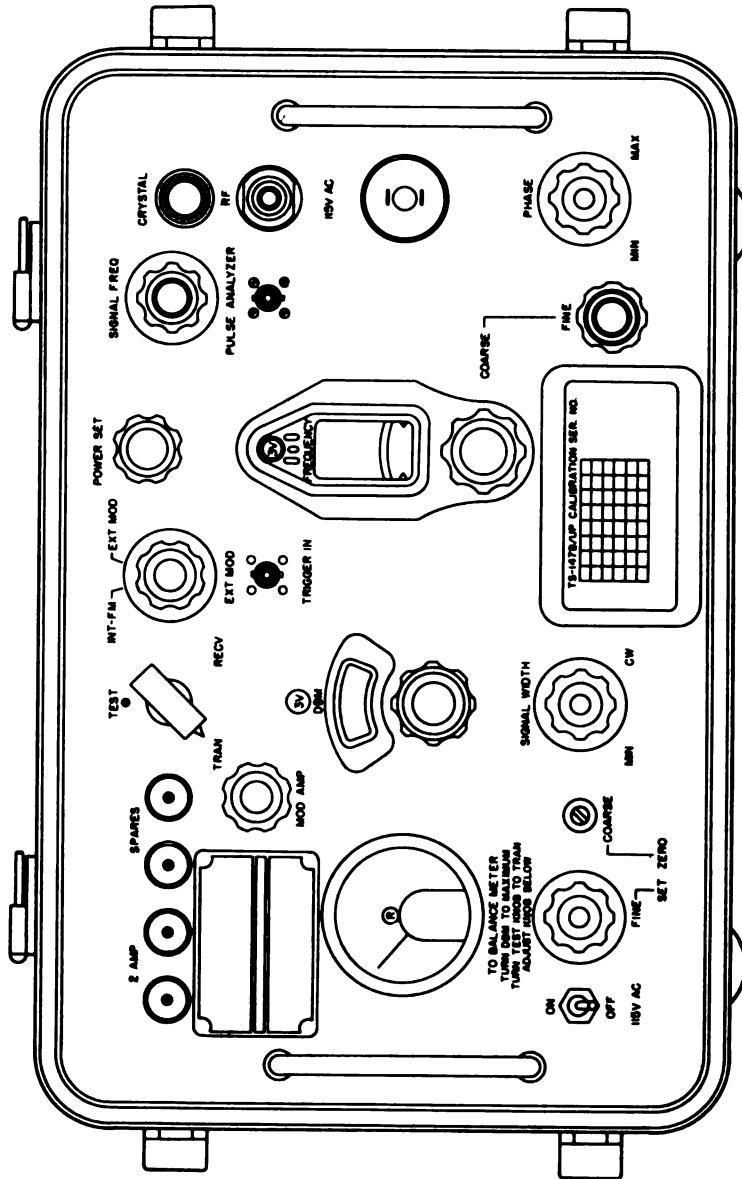

Figure 3-1. TS-147B/UP Radar Test Control Panel
4. PANEL CONTROLS (See figure 3-1).